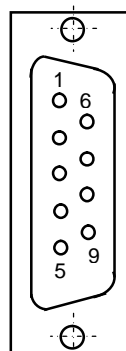

Figure 5.7
5.3.2.6 The encoder channels are wired to connectors "1"-**4**" on the front panel of the **CPU ECDA** module. Connector types are shown in Table 3.2. Connector pins arrangement is shown in Figure 5.7. The channel signals are presented in Table 5.8.